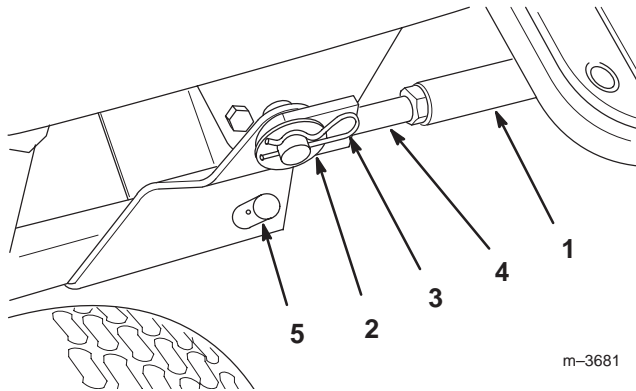
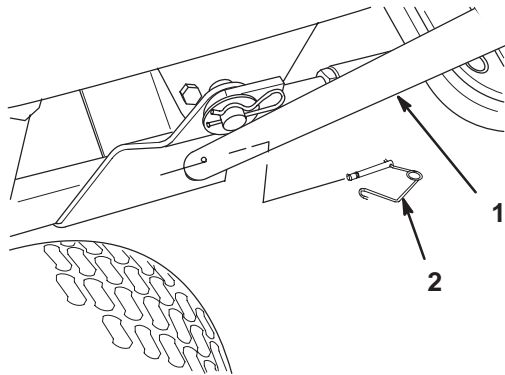

Figure 18
Figure 19
13. Secure the other ends of the support braces to the frame rods protruding from the mid Attach-A-Matic™ with a 15/16" (24 mm) washer and a large hairpin cotter (Fig. 18). You may need to turn the adjuster of each brace before the holes in the adjuster align with the frame rod.
14. Slide the crank support onto the mounting post on the left-hand side of the tractor (Fig. 18). Secure it in position with the locking pin (Fig. 19).